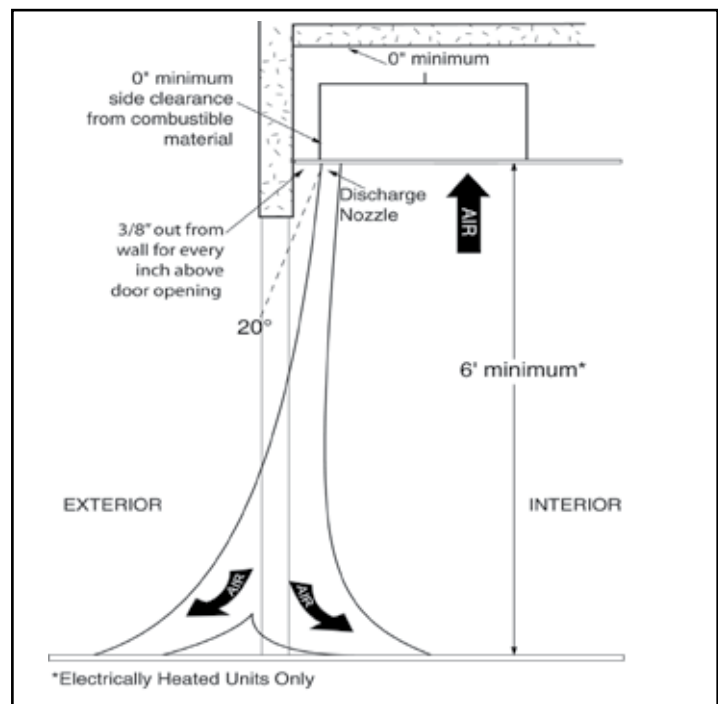

Figure 1 - General Mounting
- D. When determining the mounting location for the unit(s), make sure that nothing interferes with the curtain of air developed when the discharge vanes are directed from 0° to 20° toward the door opening. If the air stream strikes any obstruction (the top edge of the doorway, a door opening device, etc.), the effectiveness of the unit will be greatly reduced. **See Figure 1.**